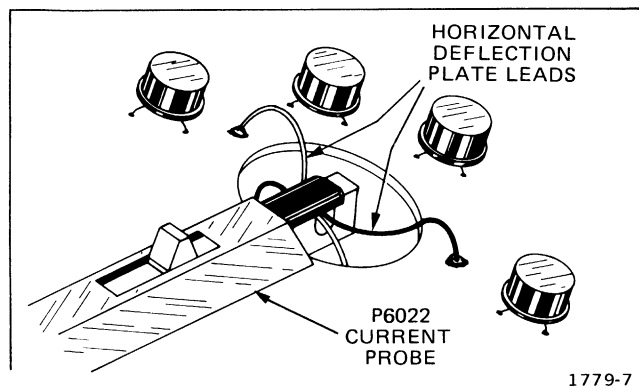

Fig. 5-2. Proper connection of Current Probe to Horizontal Deflection Plate leads for High-Speed Timing calibration.
d. Connect probe head around crossed horizontal deflection plate leads. See Fig. 5-2 for location of leads and proper probe connection.